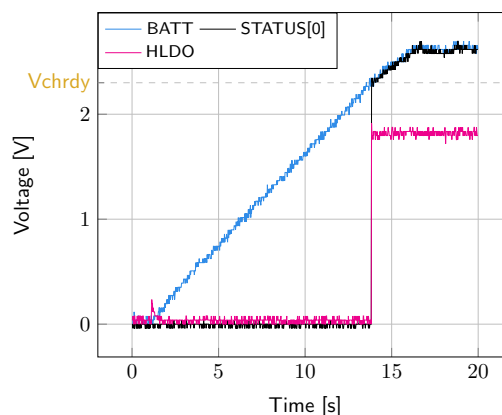

Figure 2: **STATUS[0]** and **HLDO** evolution with **BATT**
- **BATT**: Voltage rises as the power provided by the source is transferred to the storage element (see Figure 2).
- **HLDO/LLDO**: Regulated when voltage on **BATT** first rises above **Vchrdy** (see Figure 2).
- **STATUS[0]**: Asserted when the LDOs are ready to be enabled (refer to Section 7.2 "Normal mode" of the AEM40940 datasheet) (see Figure 2).